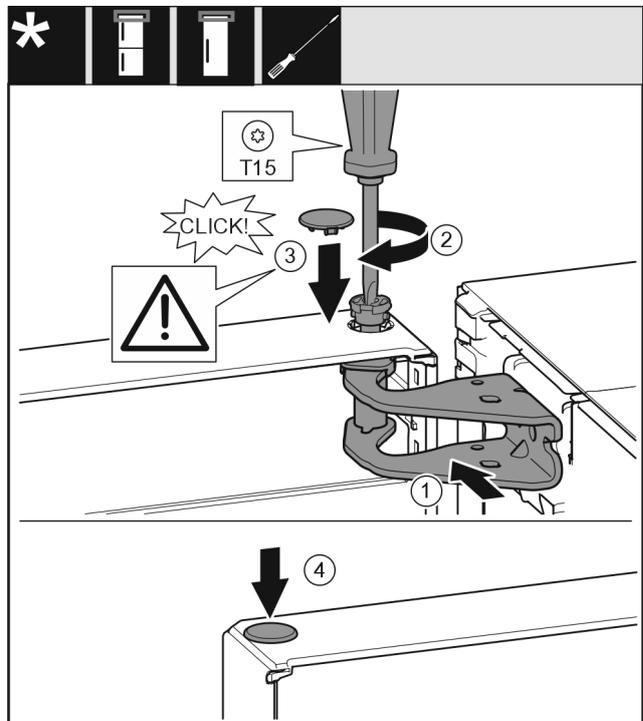

Fig. 22
- ▶ Align the top of the door with opening in the bearing bracket. Fig. 22 (1)
- ▶ Insert the bolt and tighten with a T15 screwdriver. Fig. 22 (2)
- ▶ Fit the protective cover to protect the door: Insert the protective cover and check that it is flush to the door. If not, insert the bolt fully. *Fig. 22 (3)*
- ▶ Insert the plugs. *Fig. 22 (4)*